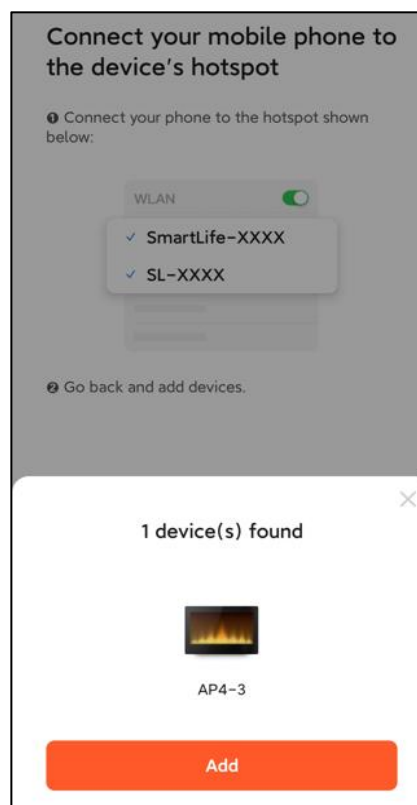

FIG.6
4. The APP will search and recommend the devices automatically (FIG.6) for you to add to.